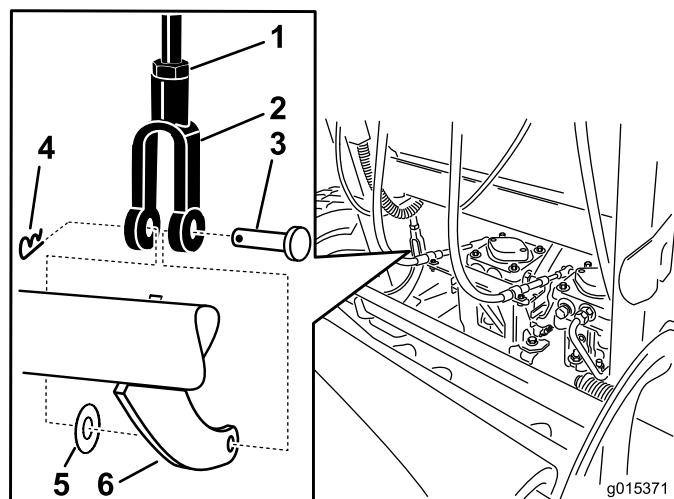

Figure 64
5. To adjust the brake, remove the hairpin cotter and clevis pin from the lower brake lever and yoke (Figure 64).
6. Loosen the jam nut (Figure 64).
7. Rotate the yoke (Figure 64).
8. Secure the yoke to the lower brake lever with the hairpin cotter pin and clevis pin (Figure 64).
9. Tighten the jam nut (Figure 64).